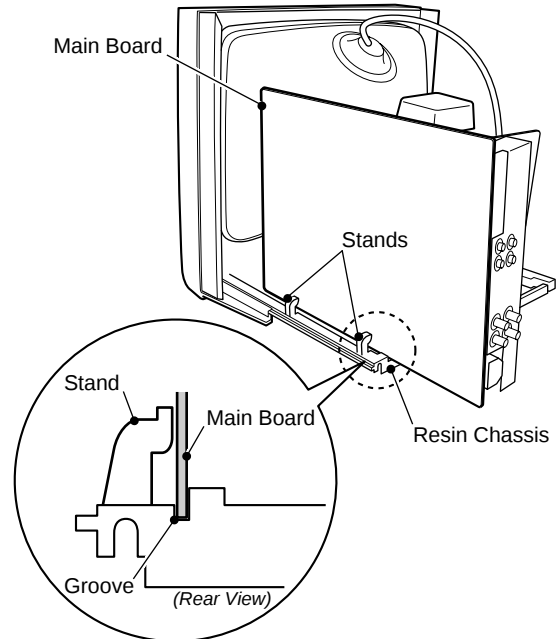

Fig. 5
- Referring to Fig. 5, stand the Main Board with two stands and groove on the Resin Chassis.